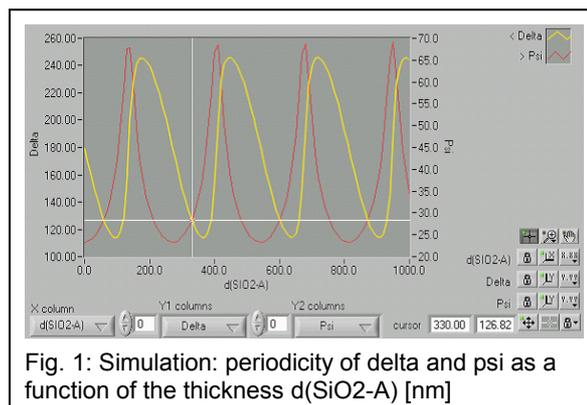
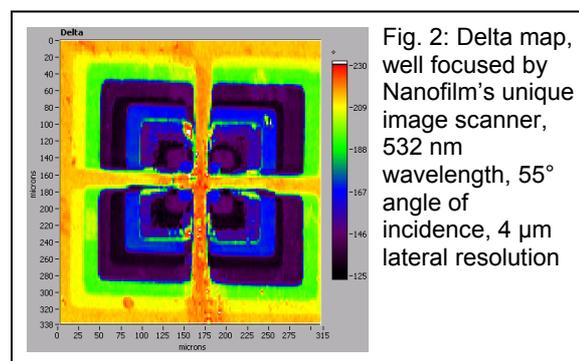

Fig. 1: Simulation: periodicity of delta and psi as a function of the thickness $d(\text{SiO}_2\text{-A})$ [nm]
Fig. 2: Delta map, well focused by Nanofilm's unique image scanner, 532 nm wavelength, 55° angle of incidence, 4 μm lateral resolution
Thickness measurement of a layer is a frequent application of ellipsometry. To this end the observables Delta and Psi are simulated with the optical model of the sample. The model contains free parameters, i.e. layer thickness d , which is varied until the difference (mean square error) of measured and observed delta and psi is minimal. The optical model can be used to simulate delta and psi as a function of the thickness d . For a transparent layer (i.e. extinction $k = 0$, fig. 1) delta and psi are periodic. The period length depends on the angle of incidence and the wavelength. With a single pair of delta and psi the thickness can only be single correctly evaluated up to a multiple of the period length, which is typical 250 nm. In order to evaluate a unique thickness either an angle of incidence or a wavelength spectrum of delta or psi has to be fitted. The imaging ellipsometer EP³-SW can record a delta map of the sample surface at one wavelength (fig.2) instead of single point measurements of delta usually done by non-imaging ellipsometers. The spectroscopic imaging ellipsometer EP³-SE records a wavelength spectrum of several delta maps and thus evaluates a thickness map without
1. On the same site of the sample record a set of delta maps at 400 nm, 488 nm, 532 nm (fig.2), 634 nm, 690 nm, 830 nm wavelength